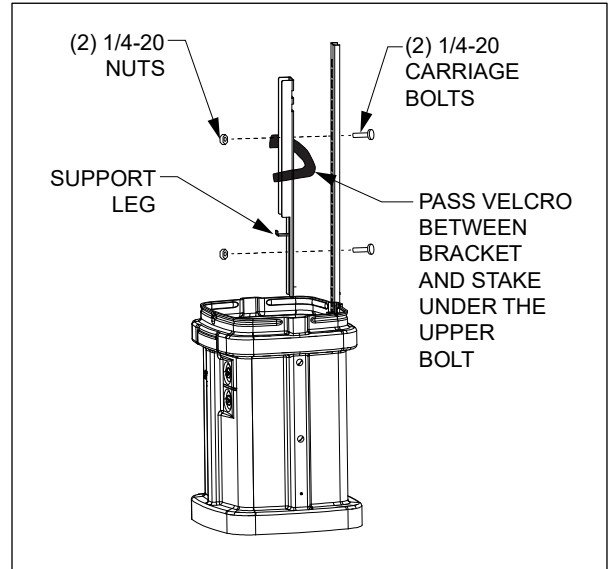

Figure 2 Secure Bracket to Stake
- Orient as shown in Figure 2, with the small support leg on the lower section of the bracket, pointing away from the stake.